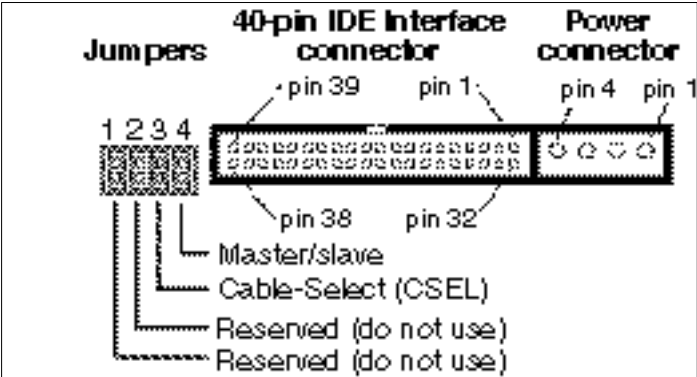

Figure 6
Before installing the Seagate Travan 40 drive make sure that the jumpers are properly configured for your system. Figure 6 shows the location of the jumper block, as well as master/slave jumper settings for various configurations.
7. Connect an available power cable to the power connector on the drive. Figure 6 on page 12 shows the location of the power connector. The recommended power mating connector should have an AMP 1-48024-0 housing with AMP 60617-1 pins or equivalent.
8. Connect the interface cable with the connector on the rear of the unit. When you make the connection, be sure pin 1 of the connector aligns with pin 1 on the cable connector. See Figure 6 on page 12 for the location of the connector and the Pin 1 location.
Note: Pin 1 on the connector on the rear of the drive is to your right as you look at the back of the drive (right side up). (See Figure 5.) Your cable should have Pin 1 highlighted by a color or dark strip. Be sure to mate Pin 1 on the cable to Pin 1 on the drive. Failure to do so could make the drive inoperative. Also, the cable is keyed to prevent incorrect installation. Make sure that the blocked pin in the cable connector coincides with the missing pin on the connector on the rear of the drive. (See Figure 6.)